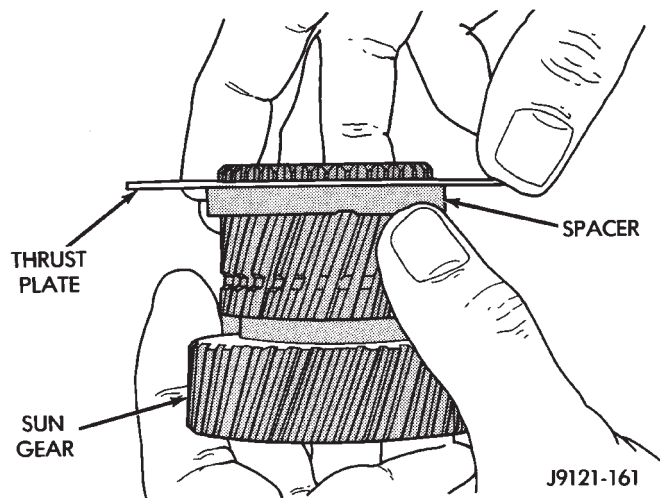

Fig. 170 Installing Driving Shell Front Thrust Plate On Sun Gear
(8) Install thrust plate on sun gear (Fig. 170). Note that driving shell thrust plates are interchangeable. Use either plate on sun gear and at front/rear of shell.